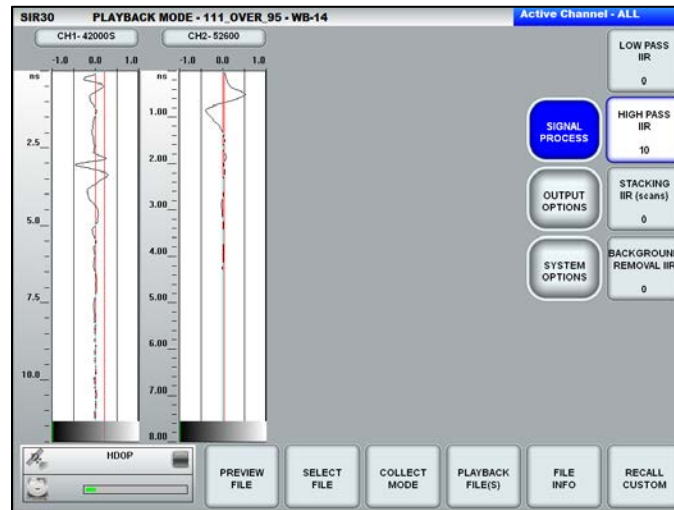

Figure 138: Dual Channel Filters.
- 3** When selecting dual channel files for playback, the SIR 30 will display the Channel 1 filter and gain settings by default. In this example (Figure 138 above) Channel one (1) is a horn antenna which has had a 10 MHz IIR HP filter and a Custom vertical filter applied during data collection.